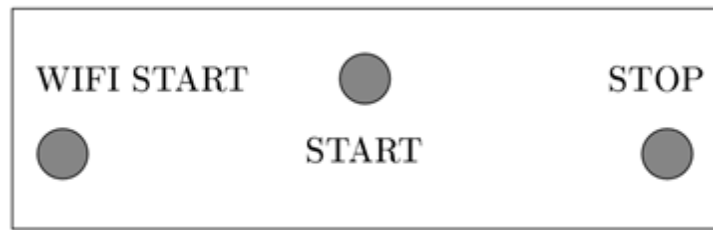

Figure 8: Buttons of the control panel
- When the OK LED is lit, you may press SD START on the control panel located on the side of the instrument box (see figure 8). Use the provided magnetic stick to operate the buttons. Once pressed, the OK led starts blinking once every 4 seconds to indicate that the data collection has been started. A few minutes later the OK led turns off to conserve battery.